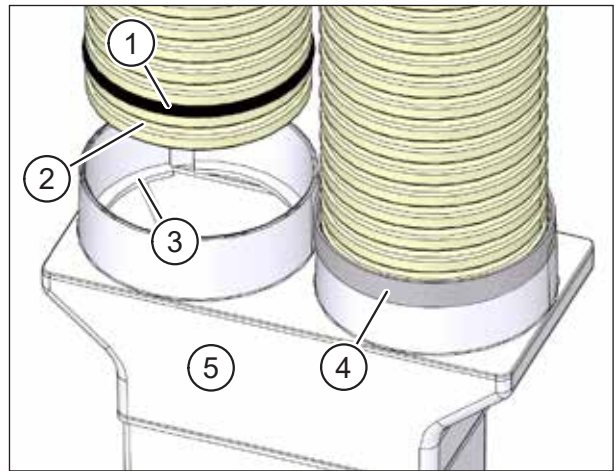

Fig. 30: Fixing a flexible pipe connection with sealing tape
- ▶ Insert the sealing rings (item 1 in Fig. 30) into the second groove on the flexible pipe. These are available as accessories M-WRG-FR-DR75 (part no. 5056-41/75) or M-WRG-FR-DR63 (part no. 5056-41/63) for the corresponding diameters.
- ▶ Insert the flexible pipes into the openings in the flexible pipe adapter (item 5 in Fig. 30). Make sure that the first groove on the flexible pipe (item 2 in Fig. 30) engages with the locking ring (item 3 in Fig. 30) on the flexible pipe adapter.
- ▶ Recommendation: Seal the join with a layer of sealing tape 30 mm wide (item 4 in Fig. 30).